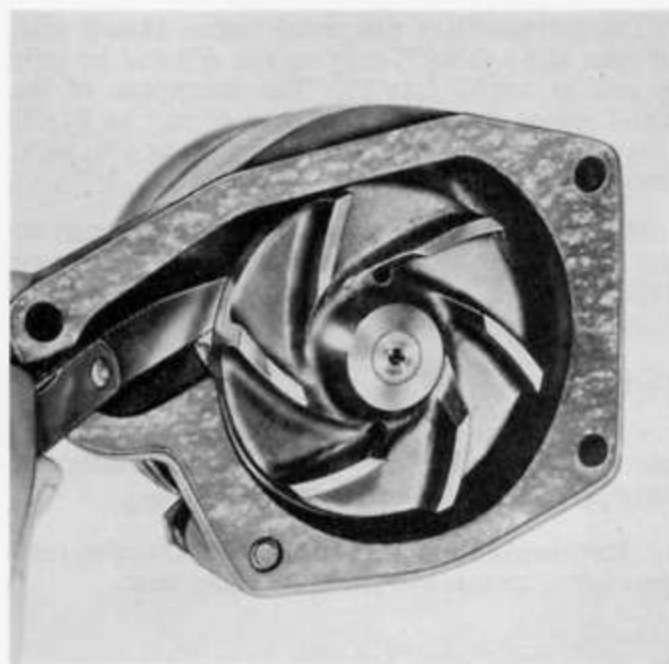

Fig. 9
7. Invert the pump on the press, support the pulley end of the shaft. Fit the seal, carbon face towards the insert and then press the impeller onto the shaft until a clearance of 0.125 to 0.635 mm. (0.005 to 0.025 ins.) is obtained between the front face of the impeller and the pump body see (Fig. 9).
7. Support the pulley end of the shaft and press the impeller onto the shaft until a clearance of 0.127 to 0.635 mm. (0.005 to 0.025 ins.) is obtained between the impeller and the pump body (Fig. 9).